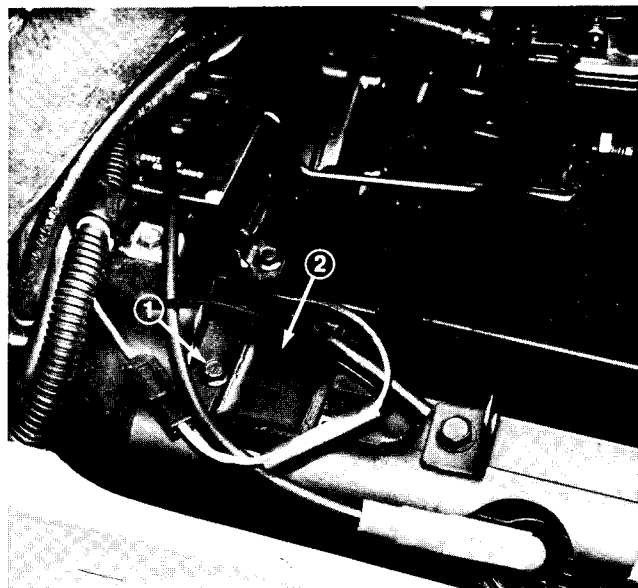

Figure 11
5. Remove the self tapping screw securing the voltage regulator to the sheet metal housing on the left side of the engine (Fig. 11). Move the voltage regulator to allow access into the cylinder fin area.